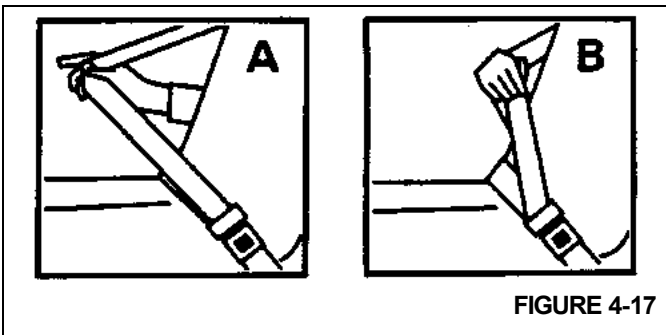

FIGURE 4-17
- a. Pull the shoulder belt out (A) at least 130 mm (5 in) so that when it is let go, it returns to your chest (Figure 4-17).
- b. Then pull down on the shoulder belt (B) the least amount needed to ease pressure but no more than 25 mm (1 inch) and let go.
5. To reduce slack in the belt, pull the belt out as you did in Step 4A, (Figure 4-17).